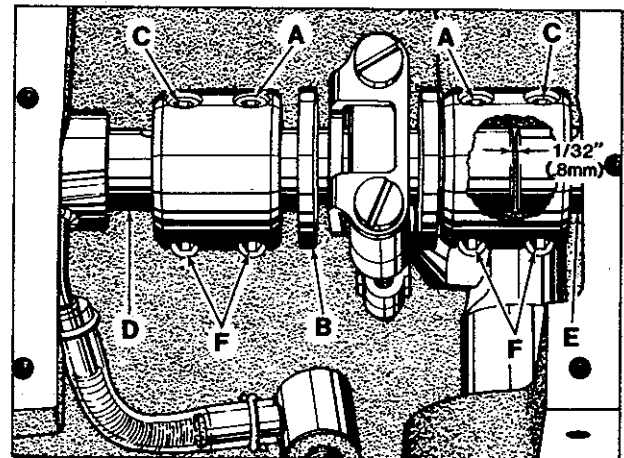

Fig. 16
As viewed looking down from rear of machine, spot screws (A, Fig. 16) in the couplings must align with the spots in the looper drive crank (B) and set screws (C) must align with the flats on crankshaft (D) and mainshaft (E).
Looper drive crank (B, Fig. 16) must be positioned laterally with 1/32 inch (.8mm) clearance between it and mainshaft (E) as shown in Fig. 16. Once these settings are made, it is very important that the coplings are tightened in the following sequence for best performance.